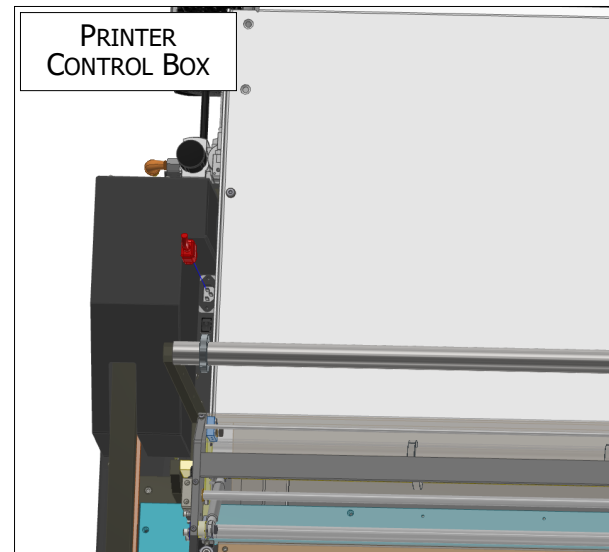

Figure 3. Printer Control Box.
6. Insert the Female end into Power Entry Module on side of the Printer Control Box. Turn the switch to the ON position. Figure 3.